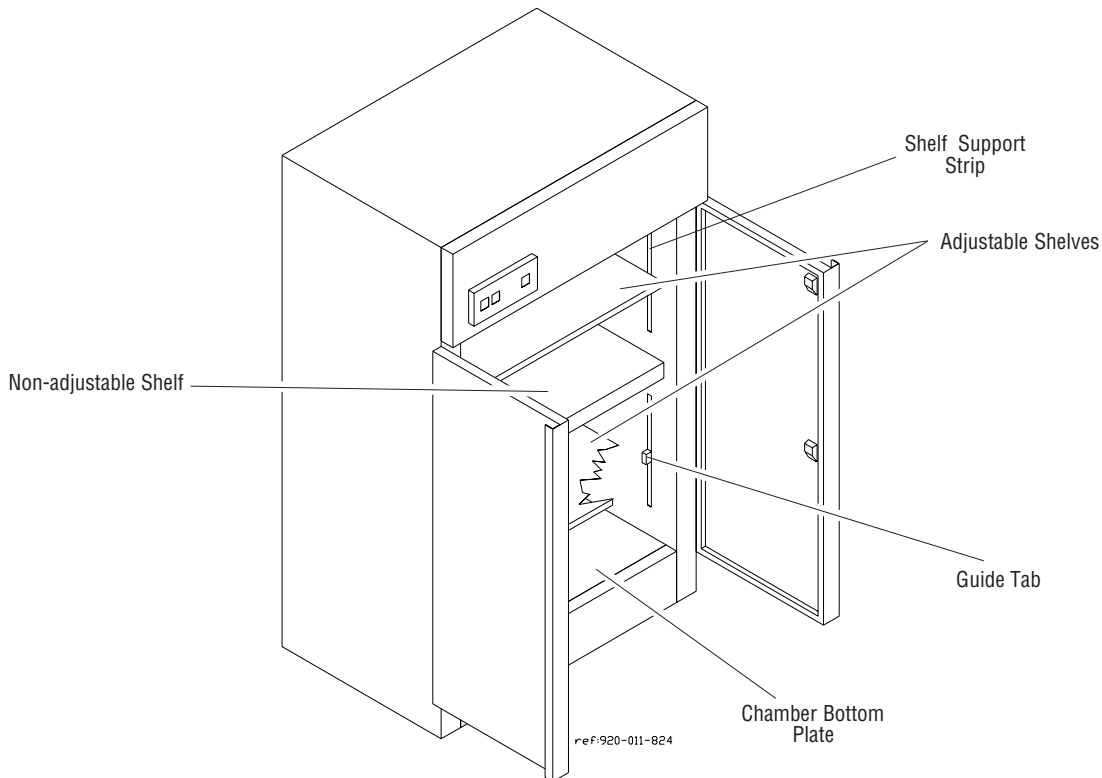

Figure 3-1. Drying Chamber
- a. Insert guide tabs, at height to accommodate load being processed, into shelf support strips (see Figure 3-1).